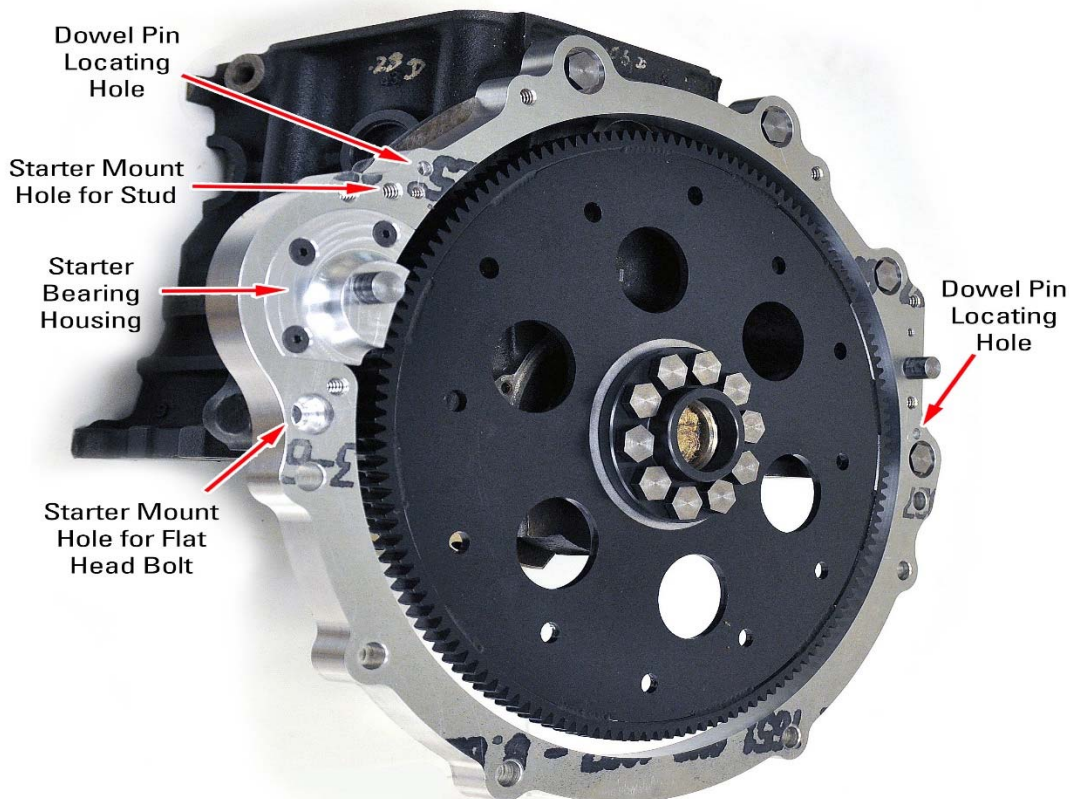

Figure 2: Installed Flexplate, Crankshaft Adapter, and Adapter Plate
Step 1: Press the two (2) locating Dowel Pins (#1) into the appropriate holes in the engine block.
Step 2: Slide the Adapter Plate (#3) over the Dowel Pins in the engine block making sure the Adapter Plate rests flush against the block. Using four (4) Adapter Plate Bolts (#2), secure the Adapter Plate in place. Figure 2 below shows the Adapter Plate properly located and installed on the engine block.
Step 3: Place the Flexplate (#4) onto the crankshaft so that the ring gear is offset toward the engine ("ENGINE SIDE" sticker on Flexplate should be facing engine). Slide the Crankshaft Adapter (#6) on over the crankshaft snout so that the small step on the Crankshaft Adapter slides inside of the center bore on the Flexplate (this locates/centers the Flexplate). All holes in the Flexplate and Crankshaft Adapter should now line up with the threaded holes in the crank. Secure the Crankshaft Adapter and the Flexplate in place using ten (10) Crankshaft Adapter Bolts (#5). A properly installed Flexplate and Crankshaft Adapter can be seen in Figure 2.
2 above) making sure the mounting hole clears the stud. Secure the Starter in place using a nut and washer on the stud and a flat head bolt on the opposite side. See reference Figures 2 and 3.